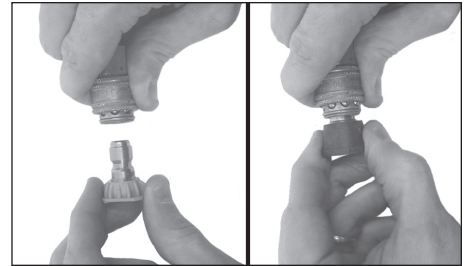

Figure 9 - Quick connect tip
2. Install quick connect tip (See Figure 9).